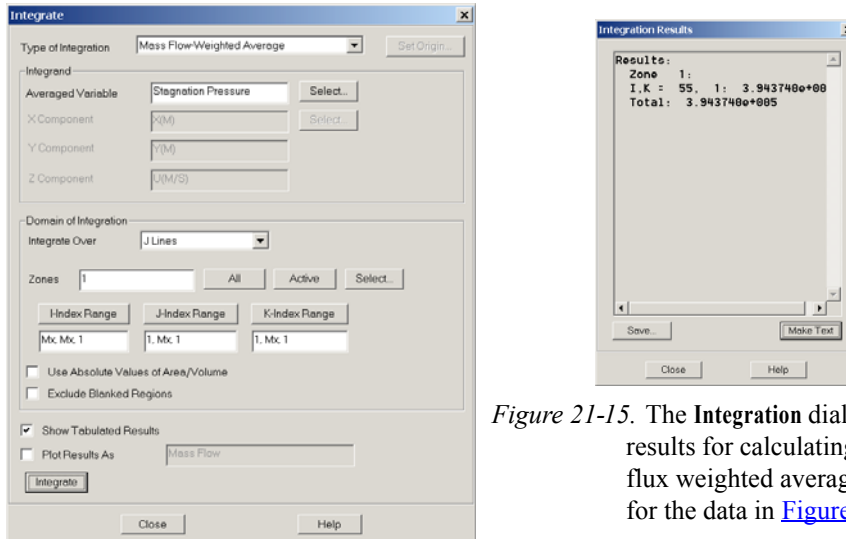

Figure 21-15. The **Integrate** dialog and results for calculating the mass-flux weighted average integral for the data in Figure 21-12.
1) to integrate only the  $I=I_{\text{Max}}$  plane. We choose only to display the result in a text dialog. Click Integrate to perform the calculation. The **Integrate** dialog and the result are shown in Figure 21-15.